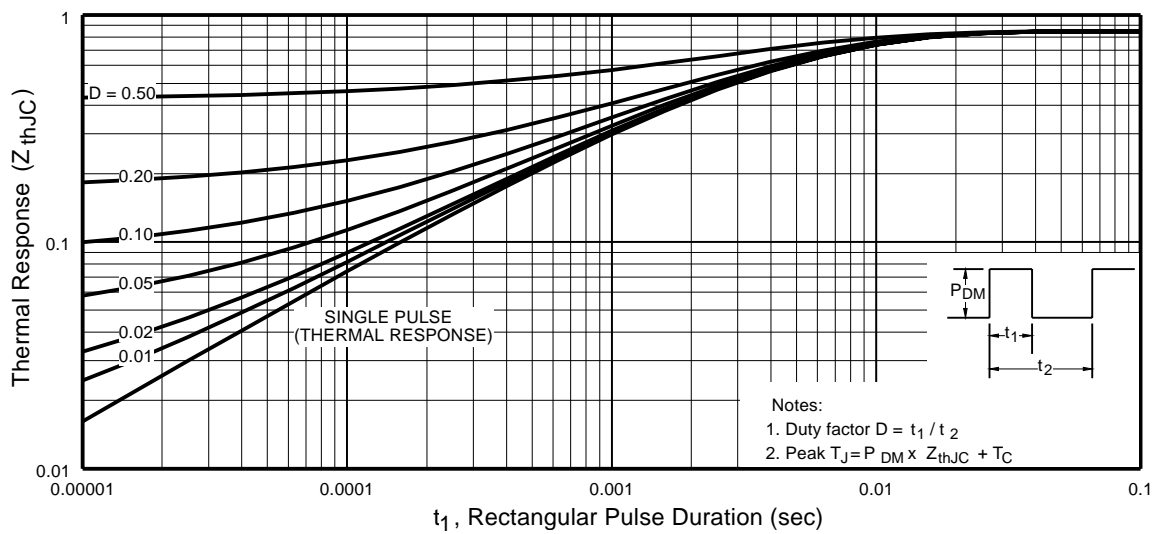

Fig 11. Maximum Effective Transient Thermal Impedance, Junction-to-Case
- ① Repetitive rating; pulse width limited by max. junction temperature. (See fig. 11)
- ② Starting $T_J = 25^\circ\text{C}$, $L = 270\mu H$